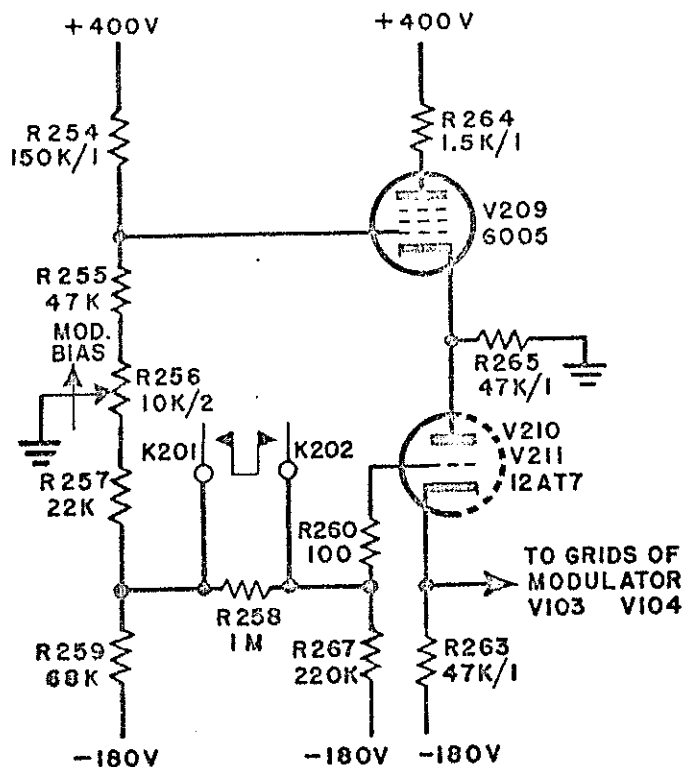
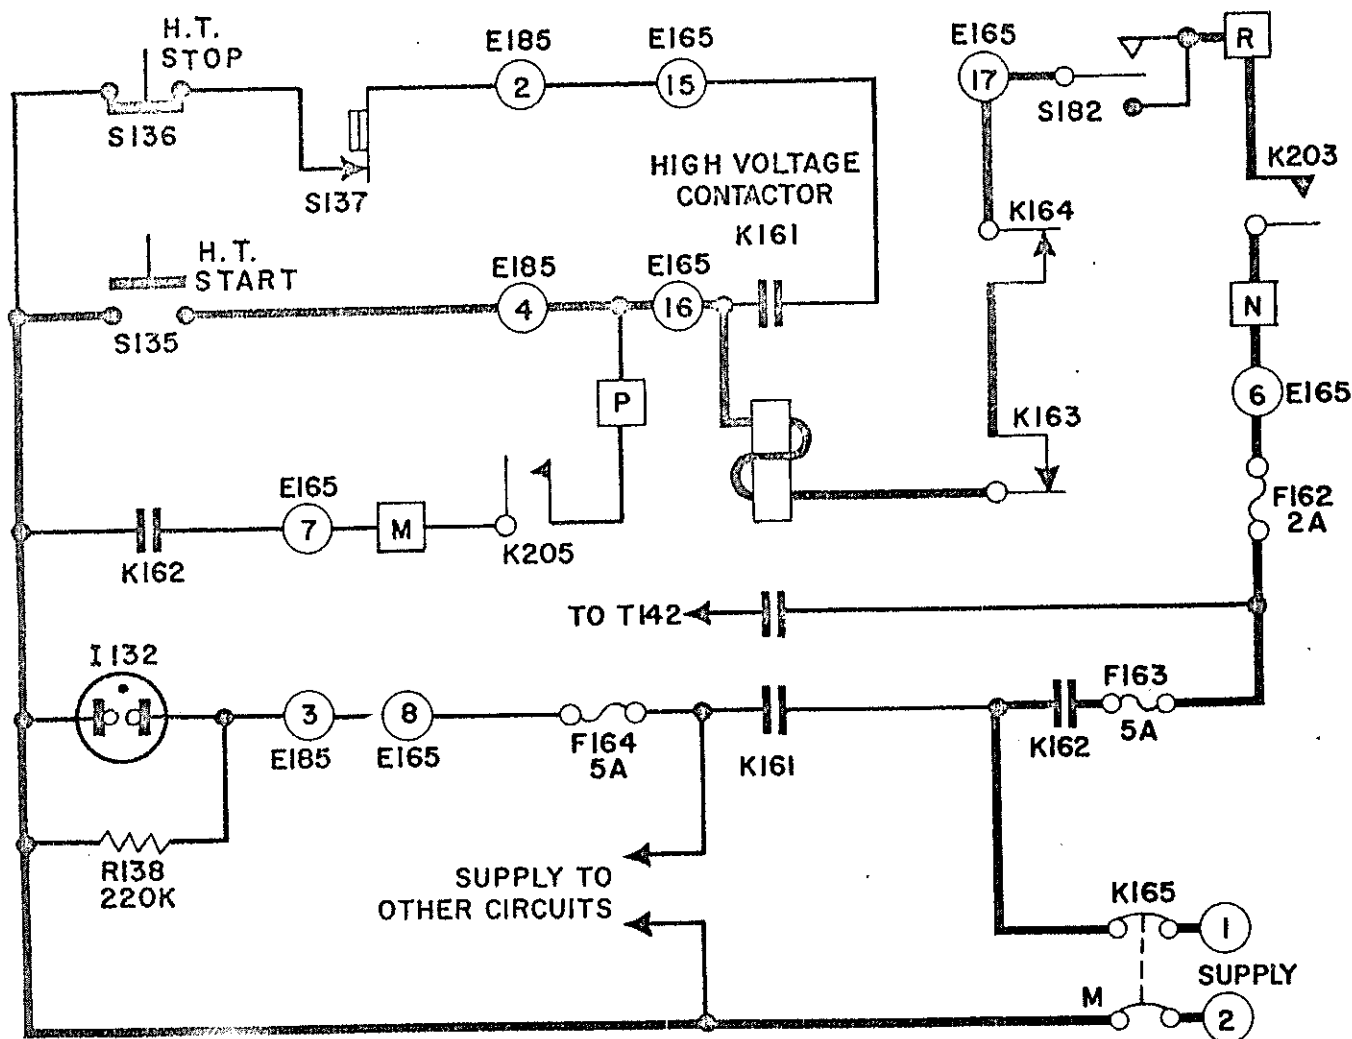
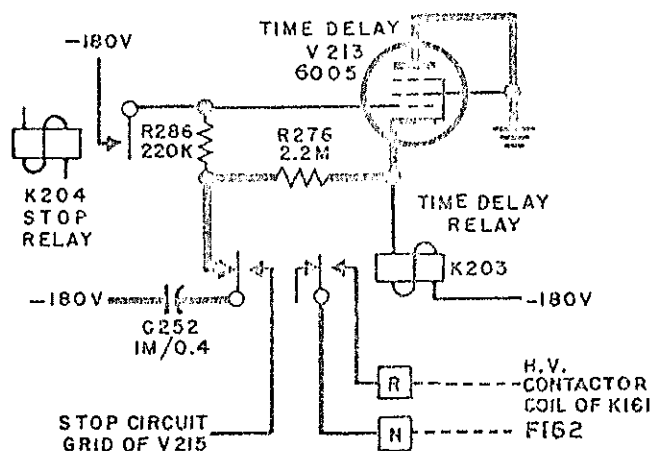
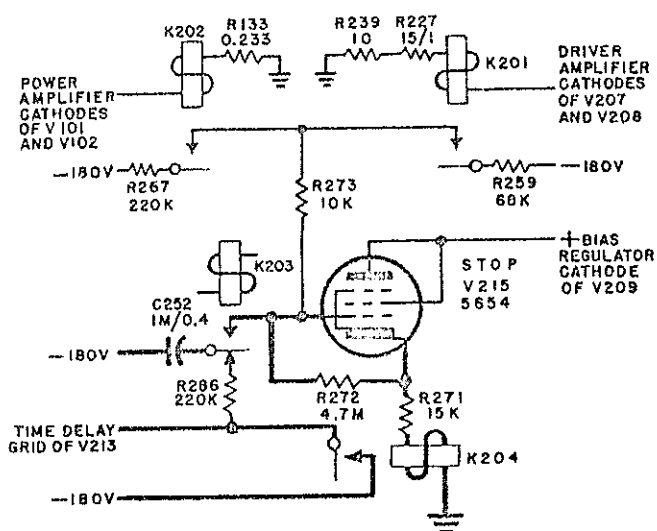

Fig. 2-16 Bias Regulator, Basic Circuit
Fig. 2-18 Operation of High Voltage Contactor, Simplified Schematic Circuit
Fig. 2-19 Time Delay, Simplified Schematic Circuit
Fig. 2-21 Stop, Simplified Schematic Circuit
removes the cut-off bias from the driver amplifier, applied to the grids of V207 and V208 from the bias supply through voltage divider R252, R248. It also pulses the start circuit (see paragraph 8. d) and provides microphone d-c feed (see paragraph 6. e). When the driver amplifier starts to conduct, its cathode current, after rapidly charging C248A, operates relay K201 through R227 and R239. The movement of the grounded contact of K201 releases K101 (in the modulator) and brings on the carrier by short-circuiting R210 in the keying network (see paragraph 5. a, "Keying"). When the r-f drive causes power amplifier cathode current to flow, relay K202 closes (see Fig. 5-1) through T101 and metering resistor R133. Simultaneous operation of relays K201 and K202 short-circuits R258 (see Fig. 2-16) and establishes correct modulator bias conditions (see paragraph 7. c, "Bias Regulator", and Fig. 5-1).
(1) The modulator tubes V103 and V104 operate under class AB2 conditions. When peak modulation voltages drive the grids positive, grid current flows in the bias circuit. Unless a low-impedance path exists across the bias supply, the bias voltage will vary when grid current flows, and distortion will be produced. The main functions of the bias regulator are to provide correct modulator bias throughout the complete audio cycle and to cut off the modulator completely unless the power amplifier and driver currents are normal. In addition, it provides operating voltages for the stop circuit (see paragraph 8. e, "Stop" and Fig. 2-21). The basic bias regulator circuit is given in Fig. 2-16. Only one triode section is shown, although actually there are four in parallel (V210 and V211, type 12AT7 double triodes) with grid resistors R260, R266, R268, and R269 to stop parasitic oscillations (see Fig. 5-16). In principle the action is similar to that of the bias isolator.
(2) When relays K201 and K202 are both closed, resistor R258 is short-circuited and the grids of V210 and V211 are connected to the junction of R257 and R259. This junction is at a potential of about -60 volts, depending upon the setting of R256. If the modulator tubes V103 and V104 are not drawing grid current, a small current will flow from the -180v bias supply to ground through R263, V210 and V211, and R265. If for the present the effects of V209 are ignored,
(3) If relays K201 and K202 are not both closed, then resistor R258 (one megohm) effectively disconnects the grids of V210 and V211 from the junction of R257 and R259 (see Fig. 2-16). Instead, the grids are connected to the
(4) Up to this time the function of the bias regulator supply tube V209 has been ignored. Its action is the same as that of the bias regulator tubes V210 and V211. Its purpose is to hold the plates of V210 and V211 at about +100 volts, instead of near ground potential as assumed for explanation purposes in the two preceding paragraphs. The grid of V209 is held at about +100 volts, by voltage divider R254, R255 and R256 across the low voltage power supply. As a result, the cathode of V209 strives to reach nearly the same potential due to plate current flowing through R264, V209 and R265. When the plate potential of V210 and V211 deviates from +100 volts, the cathode potential of V209 deviates also. The change in grid-to-cathode voltage in V209 causes the current through V209 to alter in a direction which tends to oppose any change in the cathode potential. Thus the plates of the bias regulator tubes are maintained at about +100 volts, improving their regulating action.
(5) The exact voltage at which the modulator grids are fixed is determined by the setting of R256, marked "MOD. BIAS". Adjustment of R256 alters the currents drawn by the voltage dividers R254, R255, R256 and R259, R257, R256. Thus the grid potentials of V210 and V211 and that of V209 can be set at any values within two small ranges. These grid potentials determine the equilibrium potential of the cathodes of V210 and V211, which in turn fixes the modulator bias. The modulator grid voltage may be read on the meter by plugging test prod P205 into jack J206, marked "MOD. GRID".
(1) The circuit of the high voltage contactor (or HT relay) K161 employs the same kind of holding circuit as the low voltage contactor (see Fig. 2-18). After the main circuit breaker K165, the low voltage contactor K162 and the time delay relay K203 have been closed,
(2) For operation from the remote control, the "START" switch S301 on the control, transmitter, is depressed (see paragraph 8. d, "Start"). If the transmitter is in the standby condition, with both main circuit breaker K165 and low voltage contactor K162 operated, depressing the "START" switch S301 causes the start relay K205 to close for an instant. The contacts of K205 (see Fig. 2-18) are effectively in parallel with the "H. T. START" switch S135 and energize the high voltage contactor K161 through the protection switches. A moment later K205 releases, but K161 remains energized due to the action of its holding circuit.
(3) When K161 closes, the red lamp I132 situated on the front panel and marked "H. T." is energized through fuse F164. To warn the operator, the high voltage warning lamp I161 (not shown in Fig. 2-18, but shown in Fig. 5-10 and Fig. 5-1) is connected in parallel with I132 and is mounted on top of the power supply sub-assembly inside the cabinet (see paragraph 9. f). When either of these lamps (I161, I132) is lighted, the high voltage circuits are alive. However, even though the lamps are not lighted, the high voltage circuits may still remain alive and dangerous if fuse F164 has blown or the lamps themselves have been damaged.
(4) In series with the coil of relay K161 (see Fig. 2-18) there are several protective devices, which serve to prevent premature application of plate voltage and to interrupt the coil current under fault conditions. Examination of Fig. 2-18 will show that the high voltage contactor K161 cannot remain closed unless
(2) To protect the tubes, the coil of the high voltage contactor K161 cannot be energized until the filaments have been on for at least 20 seconds (see paragraphs 8. b (1) and 8. b (4)). Closing the low voltage contactor K162 by pressing the "FIL. START" switch applies power to the bias supply. However, several seconds elapse before the bias supply rectifier warms up and develops the full bias voltage. The remainder of the 20-second delay is provided by the time delay circuit (see Fig. 2-19). When the bias supply comes on, C252 slowly charges through V213 and R276 (2.2 megohms). The charging current through R276 maintains the grid of V213 negative with respect to its cathode. The resulting current through V213 is too small to cause K203 to operate. As C252 approaches full charge, the voltage drop across R276 decreases, reducing the grid bias of V213 and allowing it to conduct sufficiently to operate K203.
(3) If the bias supply fails, the time delay relay K203 opens (see Fig. 2-19) and disconnects the high voltage supplies by releasing K161 (see Fig. 2-18).
(4) When the time delay relay K203 closes, C252 is transferred to the stop circuit (see Fig. 2-19, and Fig. 2-21) ready for use later in switching the transmitter to stand-by one minute after use (see paragraph 8. e).
If left idle for about one minute, the transmitter automatically reverts to the stand-by condition with the plate supplies switched off by the automatic stop circuit (see Fig. 2-21). During the time the press-to-talk switch is depressed, relays K201 and K202 remain closed. The stop tube V215 is cut-off by the large negative voltage on its control grid, applied from the bias supply through R259, R267 and R273. Since K203 is energised, both sides of C252 are connected to -180v and it is uncharged. As soon as the press-to-talk switch is released, the buffer, multiplier, and driver amplifiers are cut-off, the power amplifier drive stops, and relays K201 and K202 open. This allows C252 to charge from ground through K204, R271, and R272 (4.7 megohms). As the voltage across C252 rises, the negative bias on tube V215 decreases until eventually its plate current is sufficient to energise K204. Operation of K204 connects -180v to the grid of V213, causing immediate release of K203 (see Fig. 2-19). This opens K161, disconnecting the high voltage supplies. Release of K203 also connects R286 directly across C252 (through K204 contacts), discharging C252 in preparation for the next time-delay cycle (see Figs. 2-21 and 5-17). Finally, as the plate voltage on V209 drops, K204 reopens.
The power supplies are protected by two overload relays K163 and K164. The contacts of these relays are in series with the door-switch and the high voltage contactor coil (see Fig. 2-18) and their coils are connected in the ground-return leads of the low voltage and high voltage rectifier circuits respectively (see Fig. 5-10 and Fig. 5-1). They are shunted by variable wirewound 25w resistors R162 and R161, the settings of which control the exact trip currents. If these currents are exceeded, the relays operate, release K161, and remove the high voltage supplies from the equipment. The overload relays are automatically reset when the equipment is switched off. It should be noticed that the overload relays are not in circuit with the filter capacitors C141, C142 and C181, C182. In the unlikely event that one of these should fail, the resultant short-circuit would trip the main circuit breaker K165.
A safety door switch S182 is connected in series with the coil of the high voltage contactor K161 in the power supply sub-assembly (see Fig. 2-18). When the cabinet door is shut, the switch remains closed, but opens automatically and removes the high voltage supplies whenever the door is opened. When the door is open, the safety switch can be disabled by pulling it forward; it is automatically reset when the door is closed.